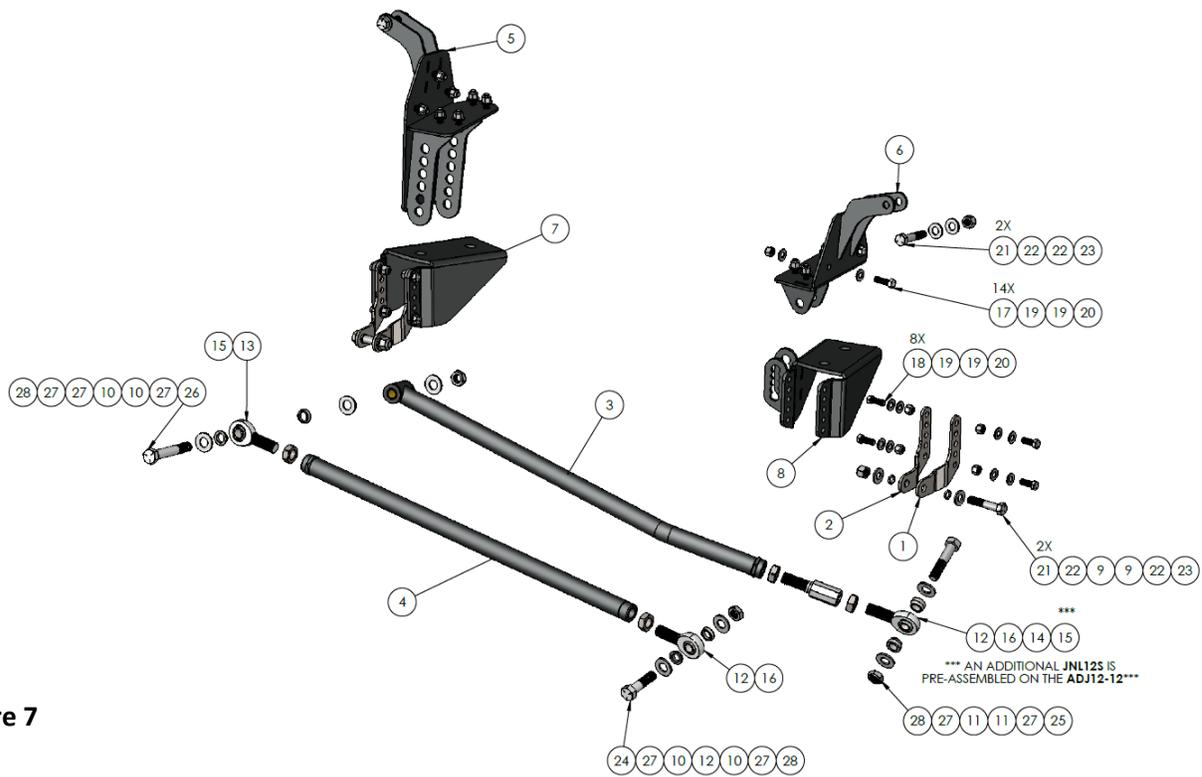

Figure 7
1. Assemble the Panhard bar per **Figure 7** on page 4. Apply anti-seize to the threads and thread the rod end and adjuster all the way in to ensure even thread engagement.
2. Assemble the JNL12S jam nut on XML10-12 rod end and JNR12S jam nut on XMR10-12 rod end. Apply anti-seize and fully thread both rod ends into the panhard bar support brace, P/N 9037-566 per **Figure 7** on page 4.